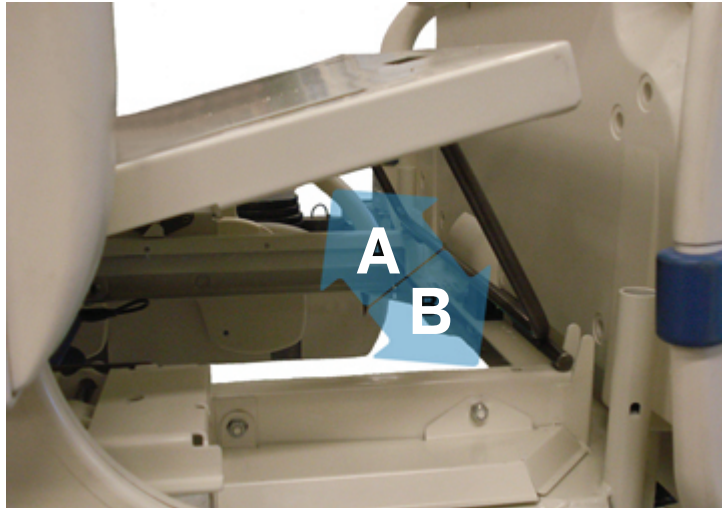

Figure 7 – Raising or lowering the lower leg section
1. Grasp the lower leg section with both hands (A) (Figure 7).
3. Guide the foot prop down into the litter (B) (Figure 7).